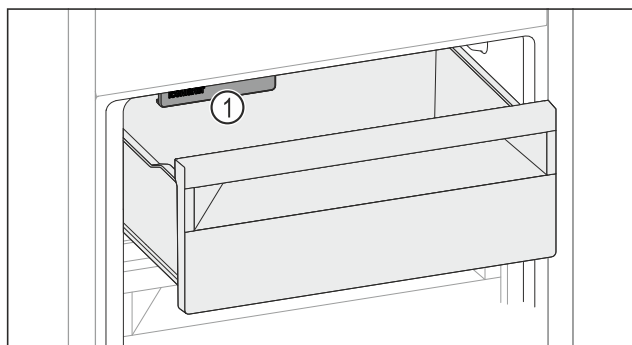

Fig. 182
- Watch out for the IceMaker Fig. 182 (1).